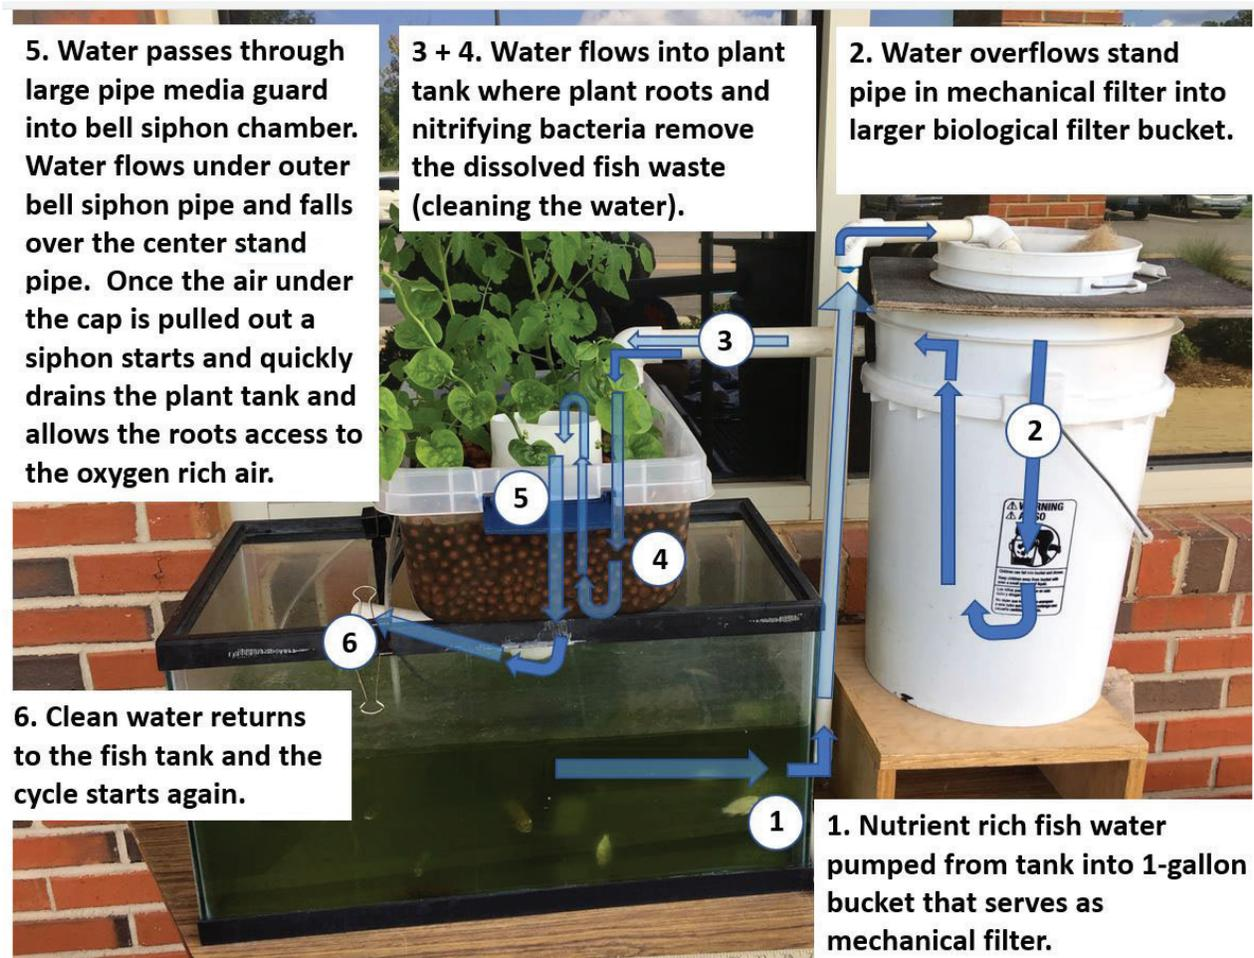

Figure 1. An aquaponics system illustrating the components and showing the path the water follows as it travels through the system.
** This is to place under the 5-gallon bucket. See figure 1. The height of this stand will be determined by the type of 5-gallon bucket used and where the overflow is located on the side of the bucket. These measurements are for use with a standard 5-gallon bucket that is 14 1/2 inches tall.